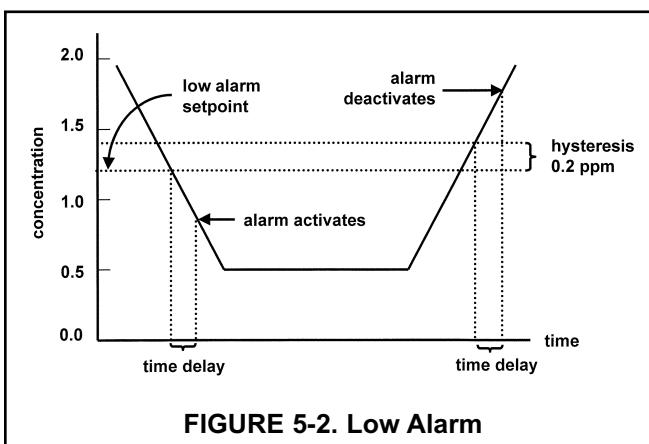

FIGURE 5-2. Low Alarm
- b. Use the **↑** and **↓** keys to move the cursor to the desired parameter. Press Edit (F4). Use the arrow keys to change the setting to the desired value and press Save (F4) to store the value. See the Figures 5-2 and 5-3 for an explanation of terms: **low alarm**, **high alarm**, **hysteresis**, and **delay**. See Table 5-1 for allowed values and limits.